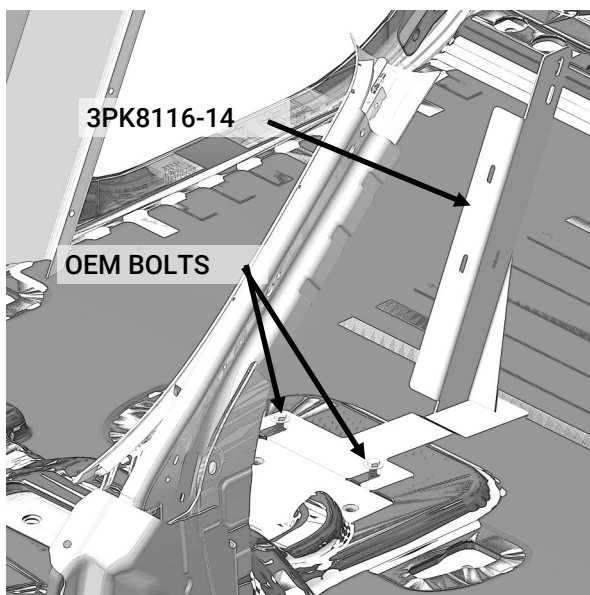

Fig. 3
- A. Loosen back the two OEM bolts at the rear of the center console, then push and lift on backside of the console to slide center bracket [3PK8116-14] to engage console bolts, then tighten. (Figure 3)